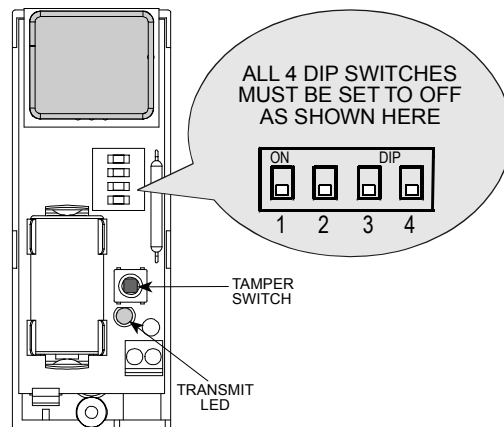

Figure 6. DIP Switches - Correct Position
- C. Verify that all 4 DIP switch levers are set to OFF as shown in Figure 6 below. If not - set them all OFF.